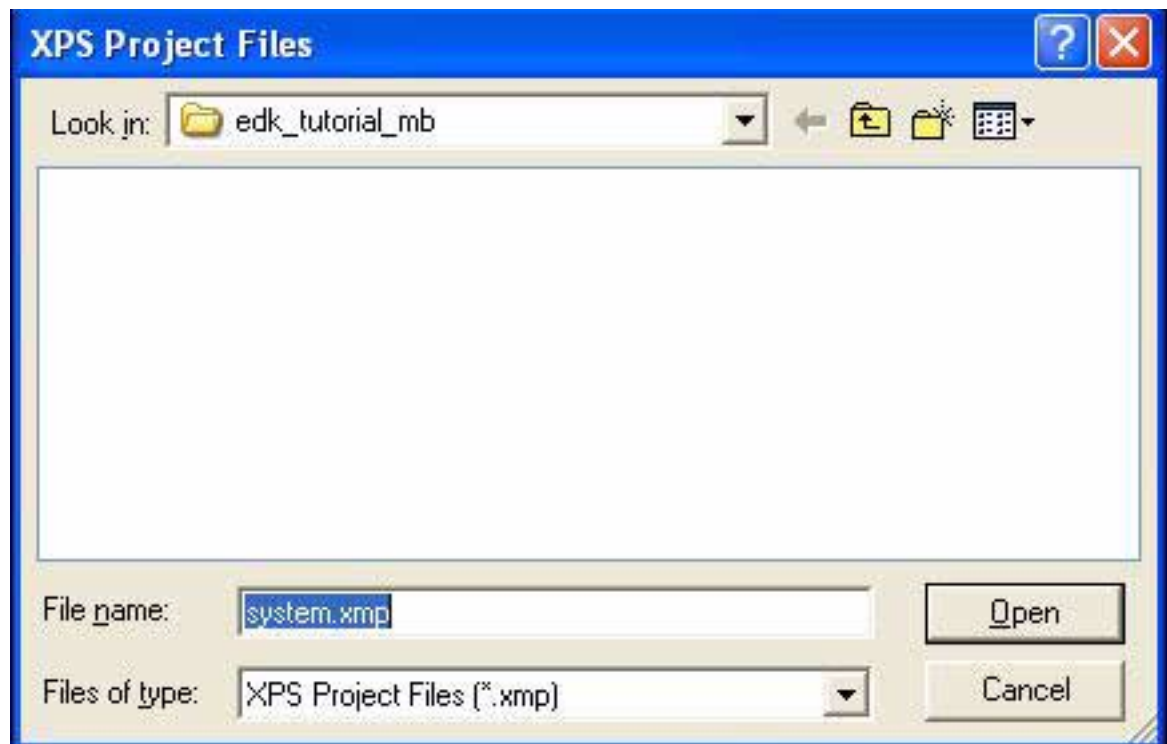

Figure 3: Specifying XMP file
3. Use the Project File Browse button to browse to the directory where the tutorial will be located. For the purpose of this tutorial the edk\_tutorial\_mb directory will be used as shown in figure 3. Click **Open** to create the system.xmp file.